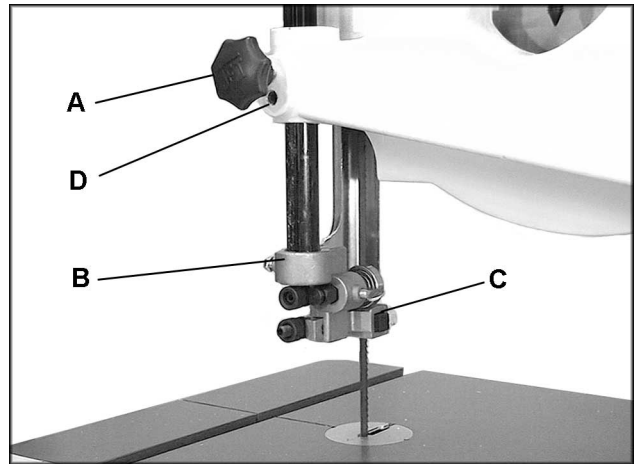

Fig. 18
2. Loosen lock knob (A, Fig. 18) and raise or lower upper blade guide assembly (B, Fig. 18) to just above the material being cut.
3. Tighten lock knob. Make sure blade guide blocks (C, Fig. 18) are still flat to the blade. If adjustment is necessary, loosen lock knob (A, Fig. 18) and rotate assembly until guide blocks are flat to blade.
4. The upper blade guide is spring loaded. To adjust the tension on the spring, remove knob (A, Fig. 18), tighten or loosen set screw (D, Fig. 18) until desired tension is reached, and replace knob.